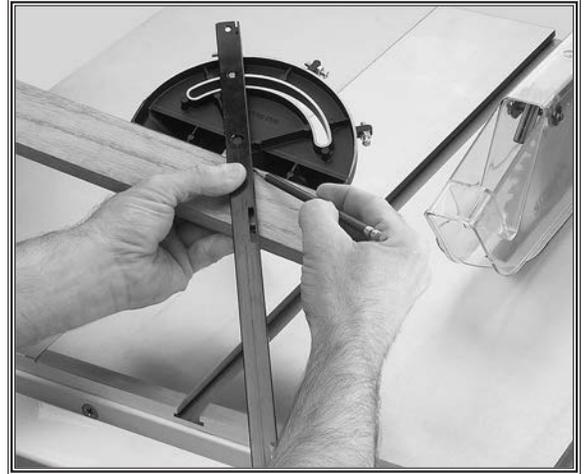

Figure 60. Example of marking miter line.
3. Place face of miter gauge against edge of workpiece and place bar across face of workpiece. Use bar as a guide to mark your cut, as shown in **Figure 60**.